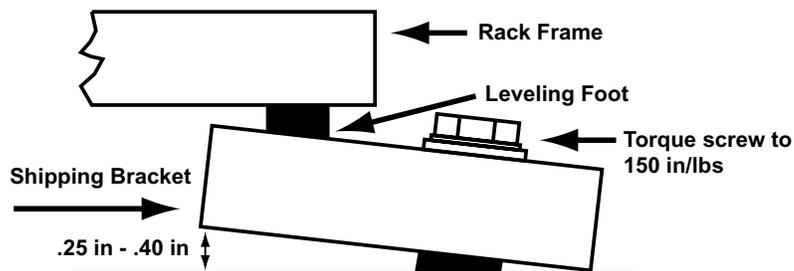

Figure 8: Tightening the hold-down brackets
- Check to ensure the rack mounting brackets are properly secured to the pallet. The bracket should be at an angle to the pallet deck (see Figure 8) and should not be loose. Ensure that the bolt securing the bracket to the pallet is torqued to 150 in-lb (16.9455 N-m).